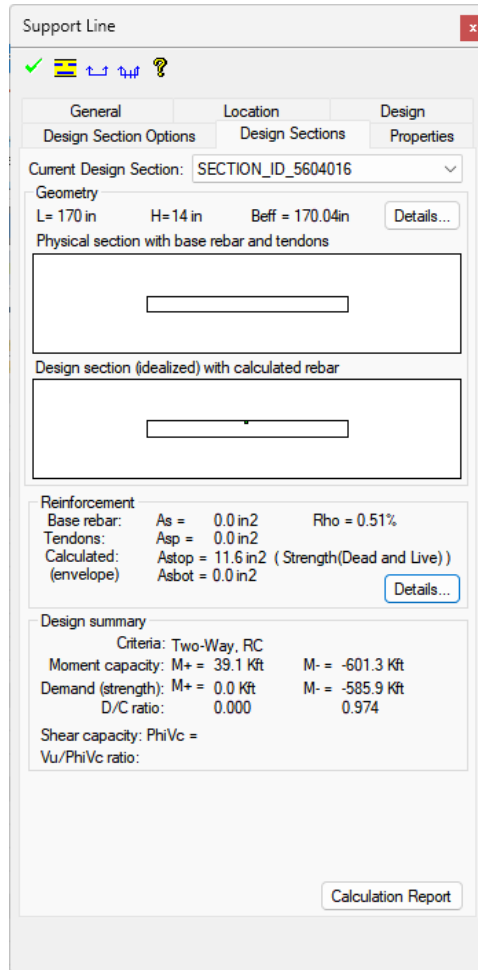

FIGURE 10-26
- The window will open to the *Design Sections* tab and display the detailed design section information as shown in **FIGURE 10-26**.